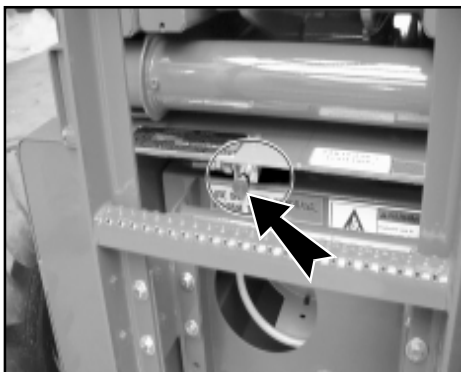

Figure 4: Emergency Lowering Valve Knob (XRT33)
12. For **XRT27**, open the chassis emergency lowering valve (Figure 4) to check for proper operation by pulling and holding the knob out. Once the platform is fully lowered, close the valve by releasing the knob.
The emergency lowering control is located at the rear of the machine at the base of the scissor assembly, (Figure 4).